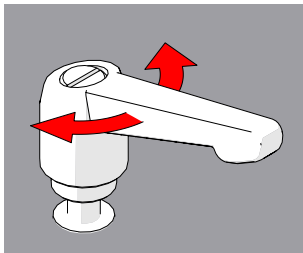

Fig. 33 - Rotate handle
2. Continue to pull while rotating the lever in the appropriate direction (*Fig. 33*).